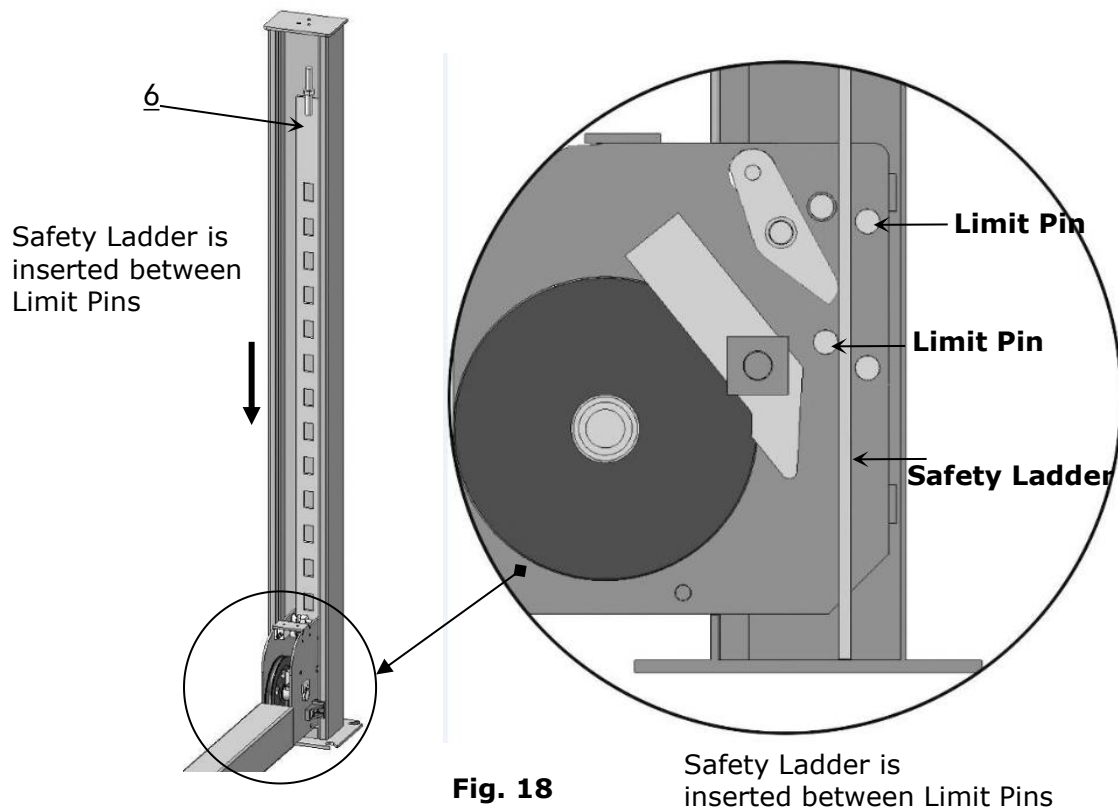

Fig. 18
1. Take off the pulley safety cover and unscrew the four upper nuts of the Safety Ladders, and then adjust the four lower nuts to be at the same position. Withdraw the Slack-cable safety lock of the Cross-beam to insert the Safety Ladder in, raise the Safety Ladder, and screw the upper nuts (**See Fig. 18**).